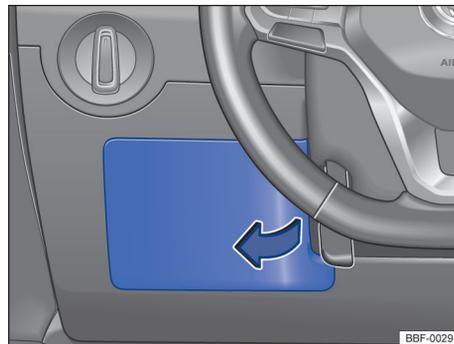

Fig. 156 On the driver's side of the dashboard: fuse box cover.
- Hold the fuse box cover → Fig. 156 and pull forward.